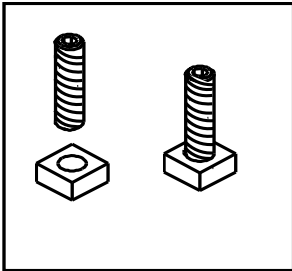

Figure 18.1
1. Thread Allen bolts through nuts until flush. **Figure 18.1.** The Allen bolts and nuts are included in the component pack inside the appliance firebox.
1. Put a layer of high temperature silicone on the 3 inch (76mm) exhaust outlet. **Figure 18.1.**